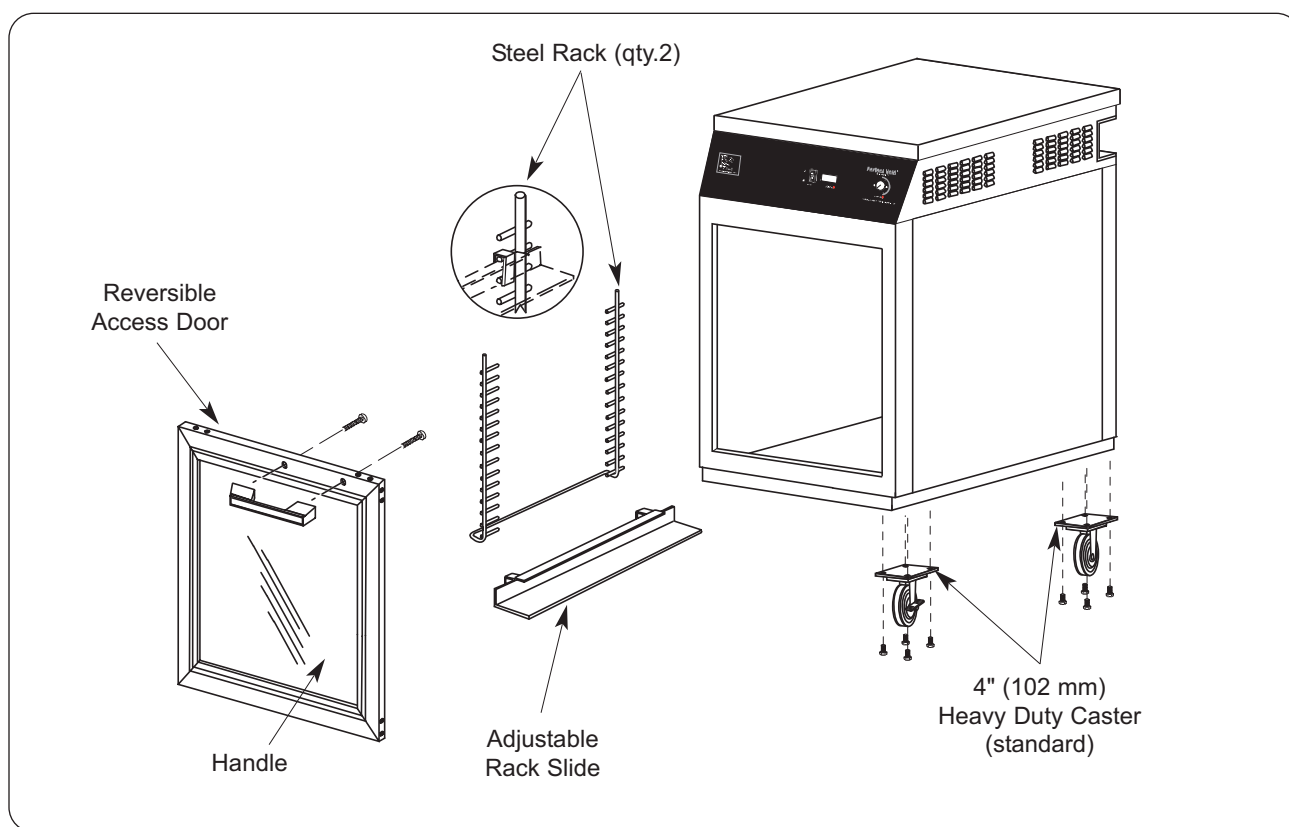

Figure 4.
4. Install the handle(s) to the access door(s). (See Figure 4.)
5. Carefully lay the unit on its side. Thread one leg or mount caster using hardware provided onto the cabinet bottom and tighten securely. (See Figure 4.) Return cabinet to the upright position.
6. Unpack the adjustable steel rack slides from the carton, and install them to the rack as shown in Figure 4. Make sure the bottom shoe of each rack faces outward.